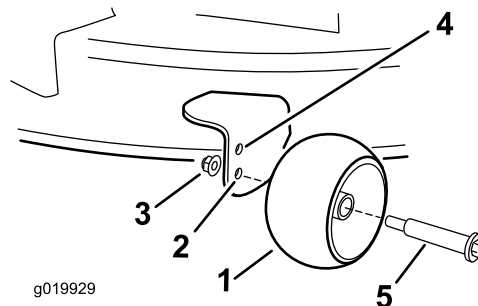

Figure 27
- Upper hole—use this position with the mower deck in the 63 mm (2-1/2 inches) and below the height-of-cut positions (Figure 27).
- Lower hole—use this position with the mower deck in the 76 mm (3 inches) and above the height-of-cut positions (Figure 27).